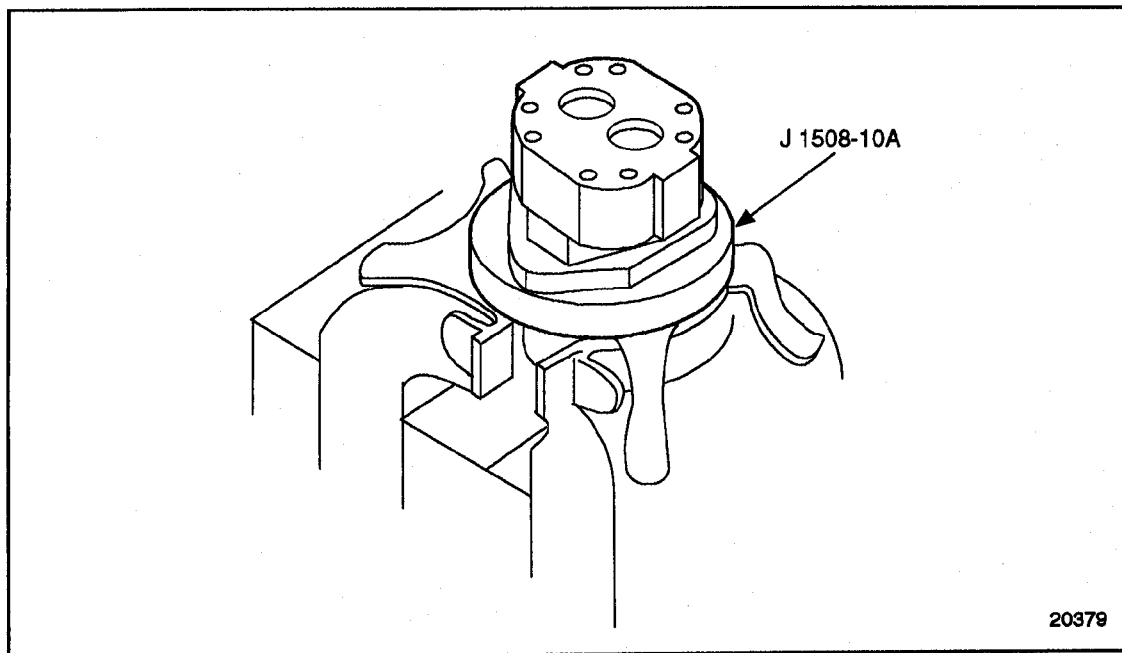

Figure 2-47 Fuel Pump Holding Fixture
3. Remove the pump from the vise and position pump on holding fixture J 38767-1, hub side down. See Figure 2-47. Clamp the holding fixture in the vise.